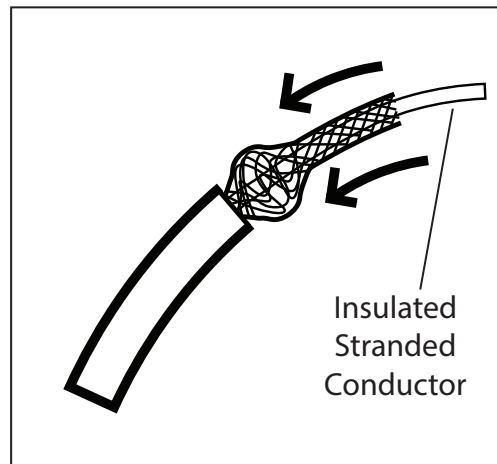

Fig. 2
(Figure 2)
3. Slide the outer braided conductor back to create a bulge and reveal the inner stranded conductor (Fig. 2).